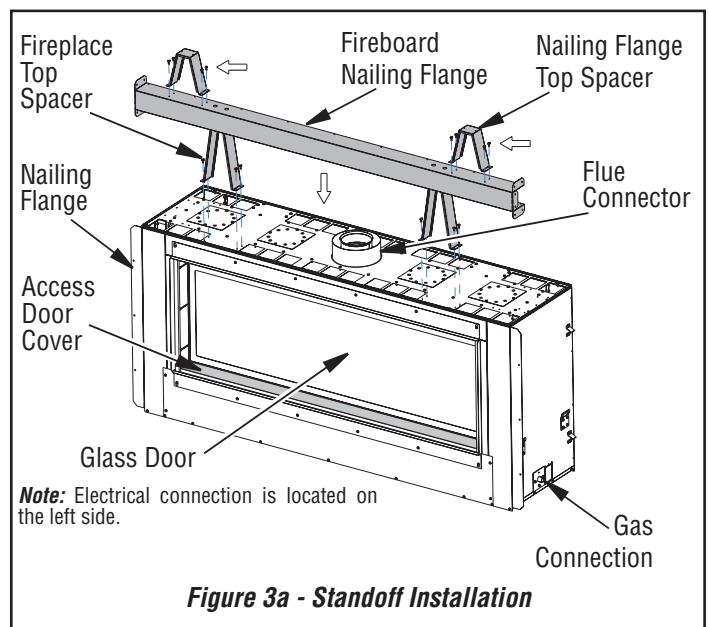

Figure 3a - Standoff Installation
2. Using screws provided, attach assembly to forward portion of appliance top as shown in **Figure 3a**.
3. Bend nailing flange top spacers as shown in **Figure 3a** and attach to fireboard nailing flange with screws provided.